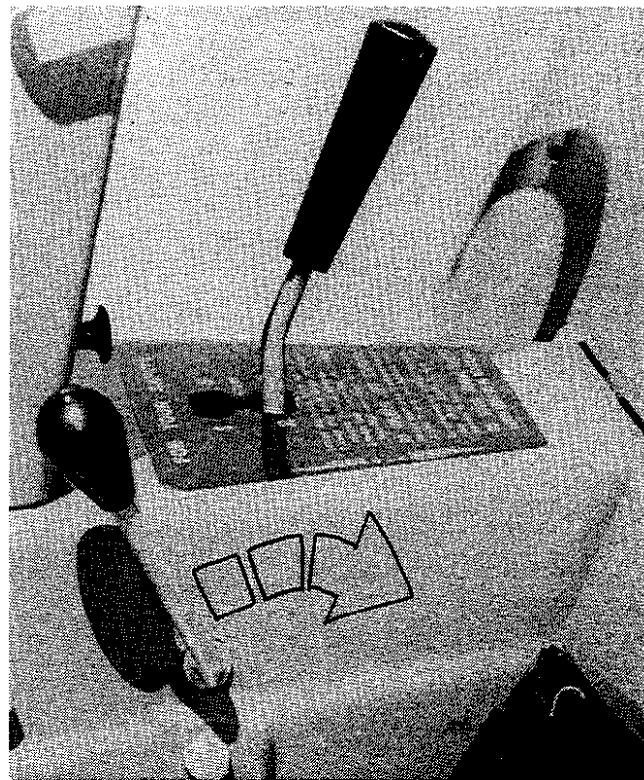

FIGURE 14
1. Insure that the power take-off is **disengaged** by moving the lever to the rear and down. If your tractor has attachments mounted, be sure the power drives to them are disengaged. (See figure 14).